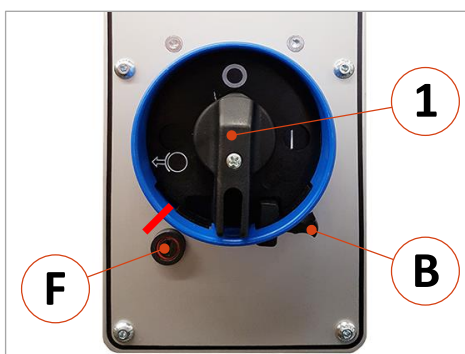

Figure 13: Rotary switch with locking latch
- Turn rotary switch (1) to position “I”.
- Turn rotary switch (1) to position “O” → Machine is braked.
- Turn rotary switch (1) to position “O”.
- Turn the locking latch (B) to the left (see red marked position in ⇒ Figure 13).
- Turn the rotary switch (1) all the way to the left → Brake is released (dwell time = 10 s).